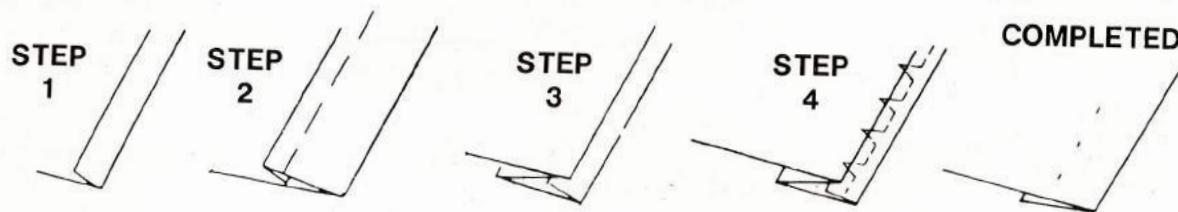

Fig. 27
Step 1. (Fig. 27). If hem with folded edge is used make first fold $3/8"$ deep.